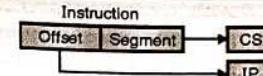

Fig. 4.9.3 : Intersegment direct
- In this mode in instruction itself new CS and new IP are mentioned. Therefore new CS and IP values replaces old CS and old IP. Fig. 4.9.3 shows graphical presentation.